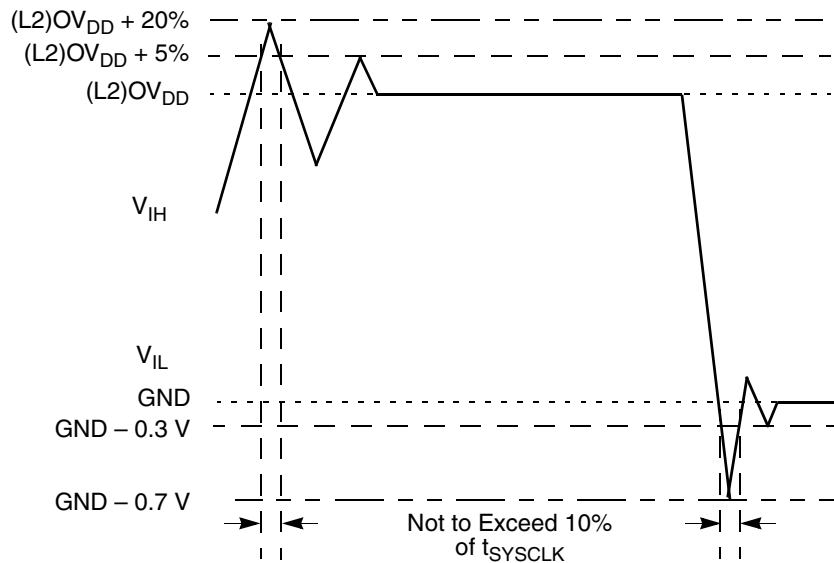

Figure 2. Overshoot/Undershoot Voltage
- This is a DC specifications only.  $V_{in}$  may overshoot/undershoot to a voltage and for a maximum duration as shown in Figure 2.
Figure 2 shows the allowable overshoot and undershoot voltage on the MPC755.